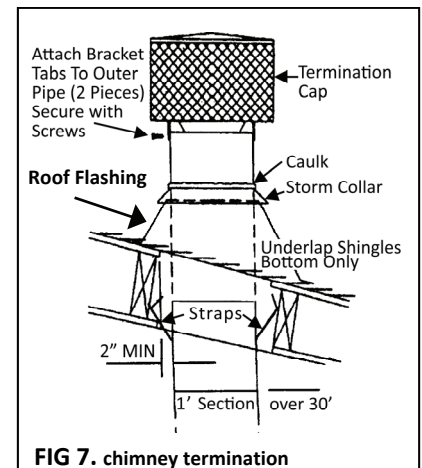

FIG 7. chimney termination
3. The remaining straight flue sections required to reach the building code approved height should be attached one at a time as they are lowered from above and secured to the elbow on the firebox. Once the whole flue is in position, attach the assembled straight flue sections to the top elbow, thereby completing all flue connections. **Make sure that both inner and outer pipe sections are locked; when installing double wall "snap lock" chimneys, it is important to ensure that the joint between the chimney sections is locked.** Check by pulling chimney upward after locking: the chimney will not pull apart if it is properly locked. Screws are not necessary to keep the chimney together. If chimney is 30' or higher, a support section provided by the chimney manufacturer is required after a straight chimney above the fireplace run, or above a return elbow after a straight chimney run. The support is designed to relieve the extra weight load on the fireplace and elbows when high chimneys are installed. See FIG 7.